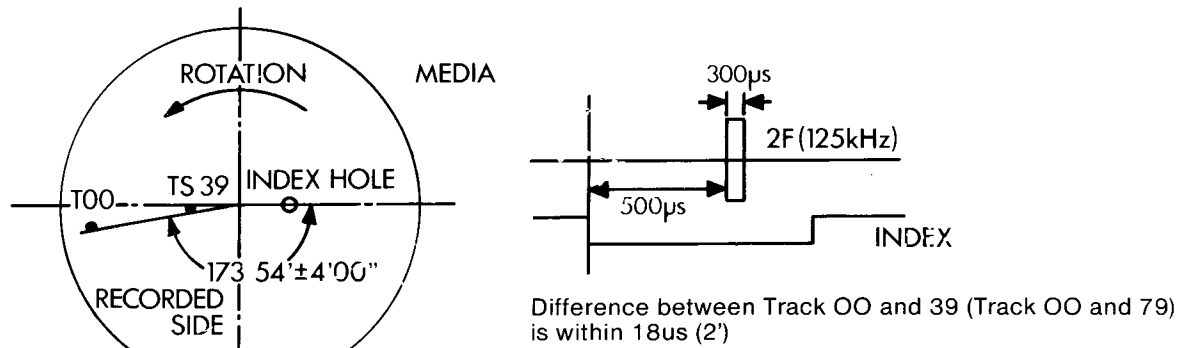

Fig. 2 Waveform of T39 (Index pattern - Radial alignment)
2. Adjustment of the index burst by use of Track 39 (Fig. 2). (Track 79, 159).	○
- 4) Adjust OO Sensor (8 on Fig. 6) so that scope shows correct difference as Fig. 2.